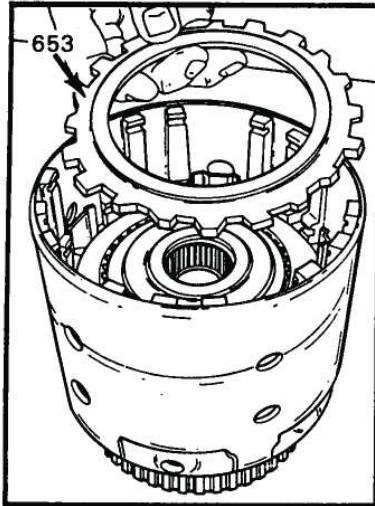

Figure 136
2. Install the 3-4 clutch STEPPED apply plate as shown in Figure 136, with the step facing up. SOME MODELS DO NOT USE THE STEPPED APPLY PLATE (SEE FIGURE 141).